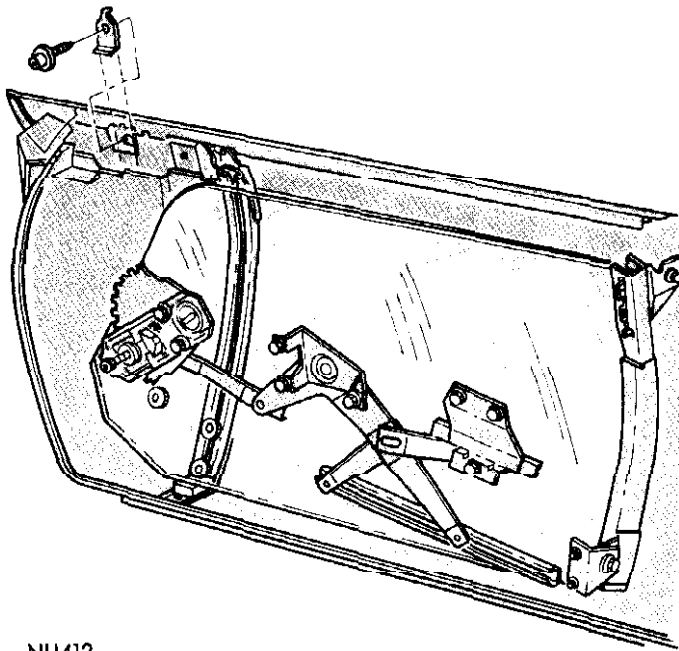

Fig. 22—Glass Up-Stops
- (5) Tighten pivot bracket and support screw assemblies.
- (6) Set front up-stop down against bumper on glass.
- (7) Tighten up-stop bracket screw on inner panel (Fig. 22).
- (8) Set rear channel up-stop wedge down against stop in rear frame.
- (9) Tighten rear channel and bracket upper attachment screw.